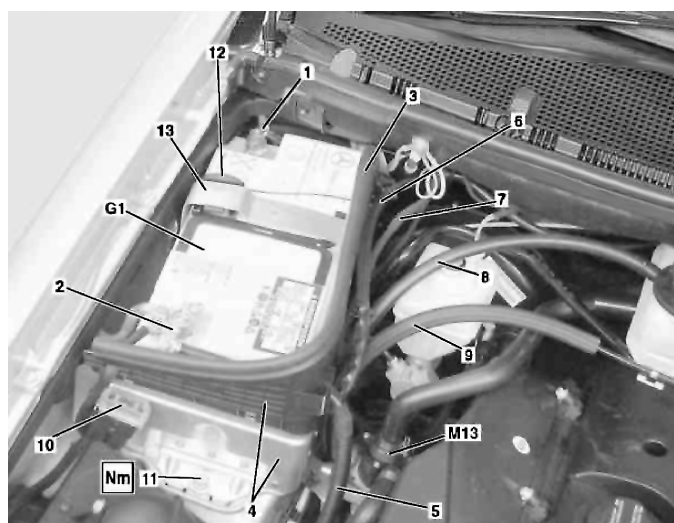

Fig. 2 Battery removal
5. Remove protective shield at positive pole of battery, and remove all lines attached to positive cable (2), **Fig. 2**.
6. Disconnect positive line (2) from battery (G1), **Fig. 2**.
7. Remove seal (3) at shield (4), **Fig. 2**.
9. Slacken retaining clip at side of shield (4), guide all lines through shield, and lay to one side, **Fig. 2**.
10. Detach coolant circulation pump (M13) from shield, if required, **Fig. 2**.
12. Detach overflow hose (8) and control cable (9) at shield, **Fig. 2**.
13. Detach fuse holder for suction fan (10) at front of shield, and remove line from shield if equipped, **Fig. 2**.
14. Remove bolt (11) at shield, **Fig. 2**.
15. Remove clamping wedge (12) at retaining bracket, **Fig. 2**.
16. Detach retaining bracket (13) by pressing downward, **Fig. 2**.
17. Detach and remove shield (4). Turn shield forward and reset in order to loosen front retaining lugs, **Fig. 2**.
2. Attach and install shield (4), **Fig. 2**.
10. Guide all lines through shield, and tighten retaining clip at side of shield (4), **Fig. 2**.
12. Install seal (3) at shield (4), **Fig. 2**.